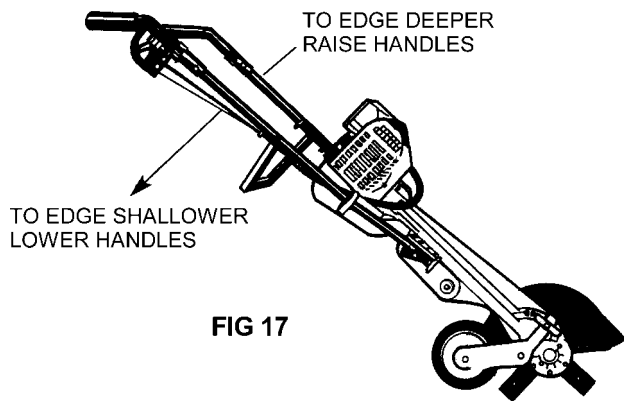

FIG 17
- If blade is not deep enough, or if digging too deep, adjust blade height, or slightly raise or lower handles to suit depth required (Fig. 17). However, it is always more comfortable and relaxed to have arms fully extended downwards.